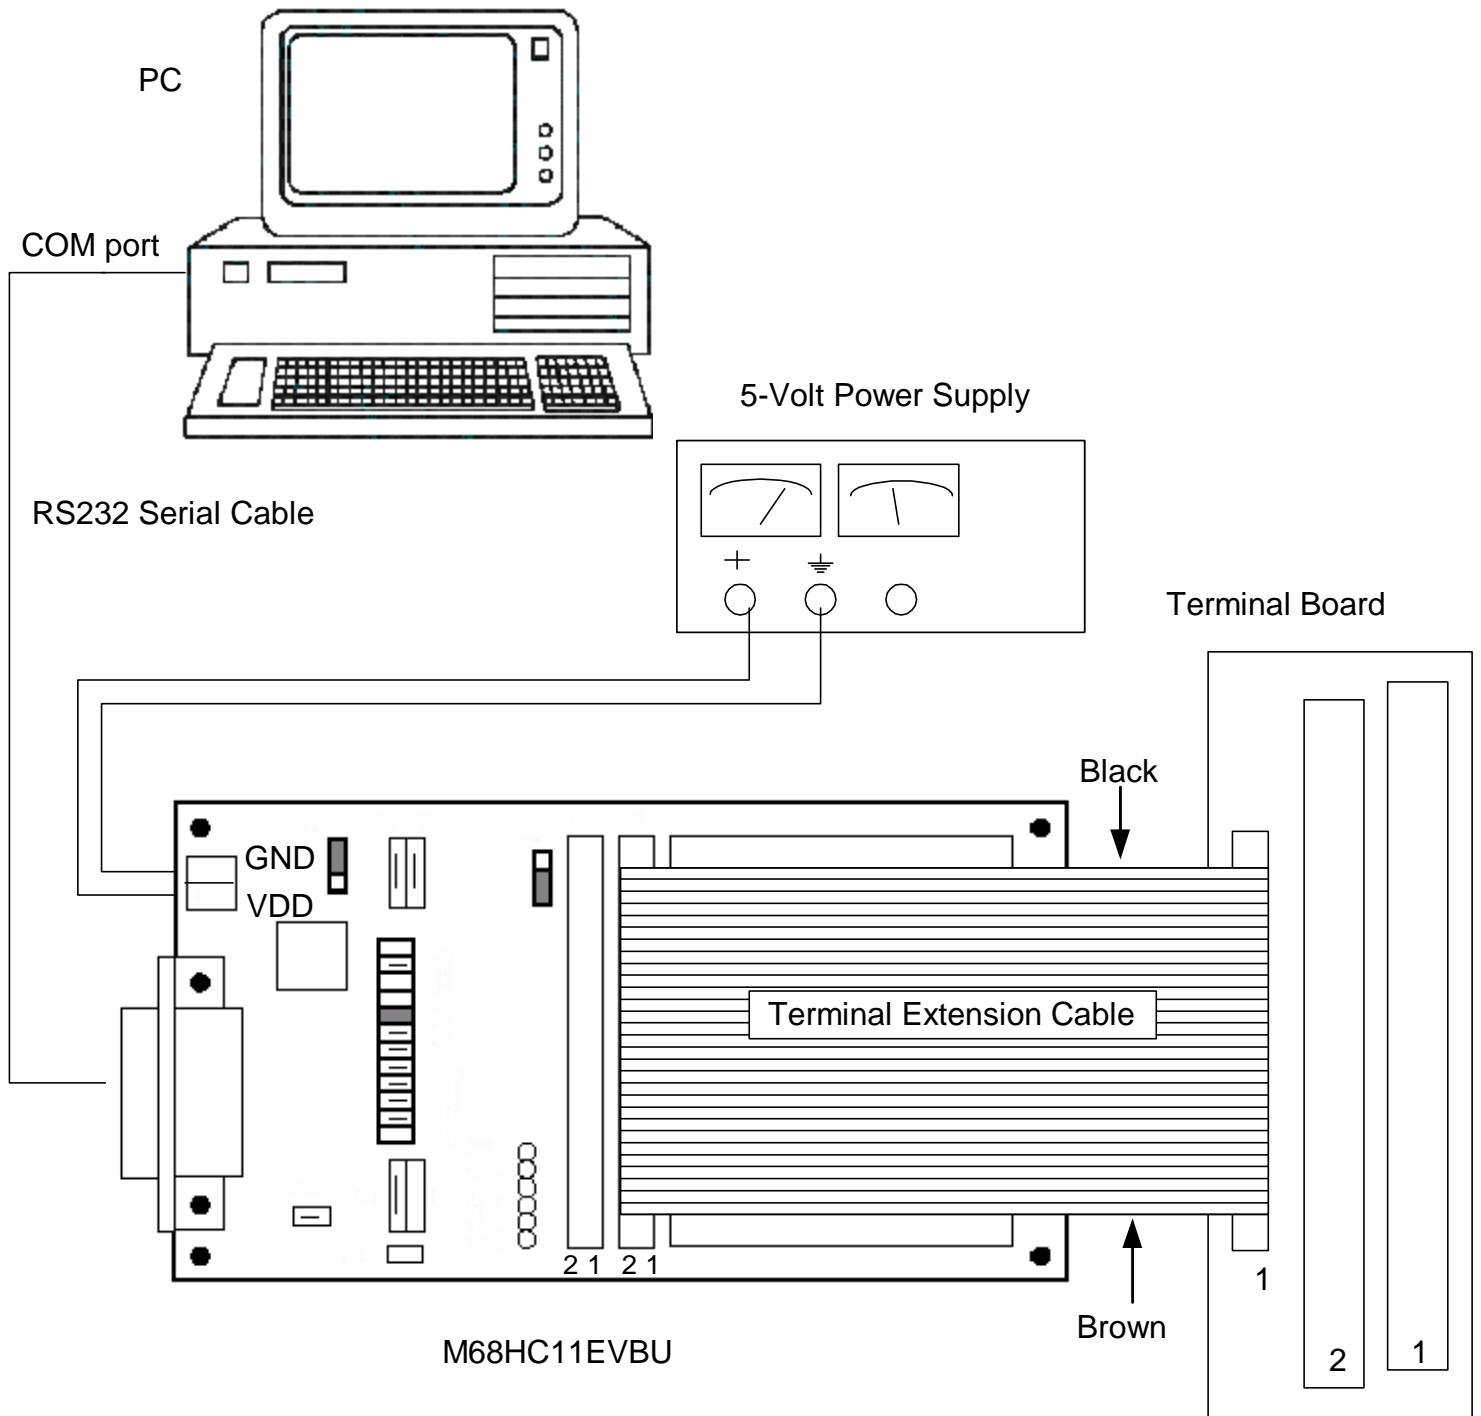

Figure 1
1. Connect the Terminal Board to the Training Board using the Terminal Board Extension Cable (60-wire colored ribbon cable) as shown in Figure 1. Make sure that the cable is connected properly by checking the color coding of the cable.
3. While the 5-Volt Power Supply is off, connect the power supply outputs to the Training Board Power Supply Connector (P1) as shown in Figure 1.
6. Connect the M68HC11EVBU board to the PC's serial port using the supplied serial cable as shown in Figure 1.